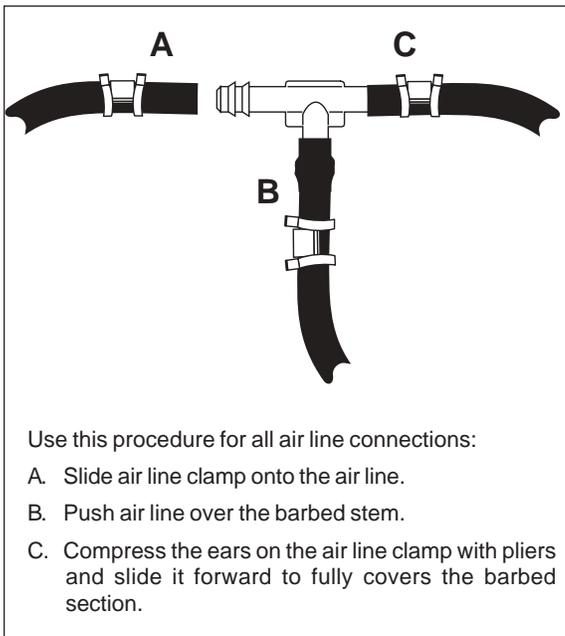

Figure 3
- With pliers slide the air line clamp forward until it fully covers the barbed section. Repeat for other leg of tee (Figure 3).
Stability translates into safety and should be the priority, meaning the driver may need to sacrifice a perfectly level and comfortable ride. Stability issues include roll control, bounce, dive during braking and sponginess (fig. 3). Tuning out these problems usually requires an increase in pressure.